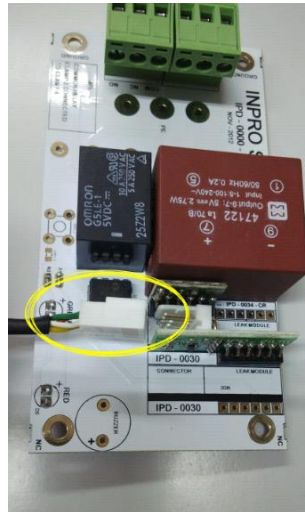

Fig. 1
- 3.- Fix the leak detection 4 pin connector at the L.D. PCB (see Fig. 1)